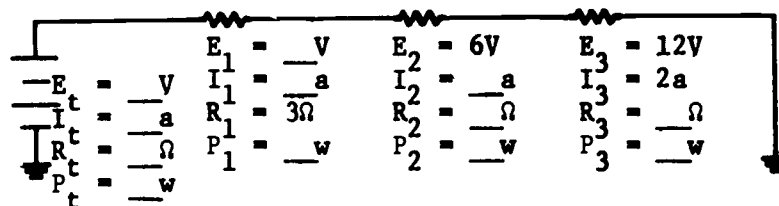

Figure 2.
4. We don't have enough information now to use Kirchhoff's voltage law, but we can use Kirchhoff's current law. Applying it we have  $I_2 = 2a$ ,  $I_1 = 2a$ , and  $I_t = 2a$ . Fill in these values on the appropriate blanks in figure 2.